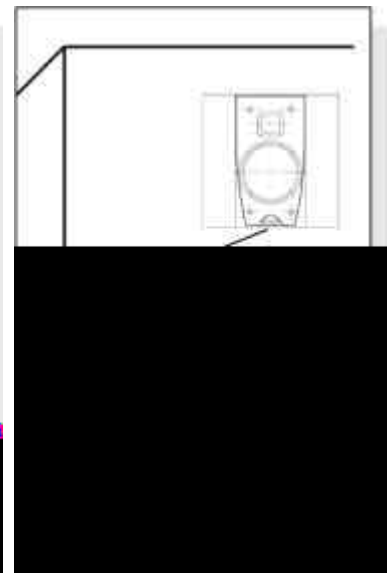

Figure 3
- When the cabinet is less than 1m above floor level 'invert' the cabinet so the tweeter is above the bass-mid driver. See figure 3.